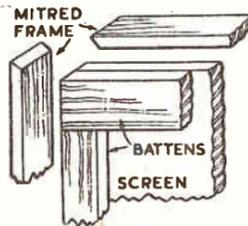

Fig. 2—Detail of construction
Round the edge of this is put a flat strip composed of the frame (E) and (F). These $\frac{3}{4}$ in. wide pieces are glued with the back edge flush with the back of the frame, so there is about $\frac{1}{2}$ in. projection at the front. The corner ends are mitred carefully with plane or file, to make a good joint. A detail of one of the corners is given in Fig. 2.